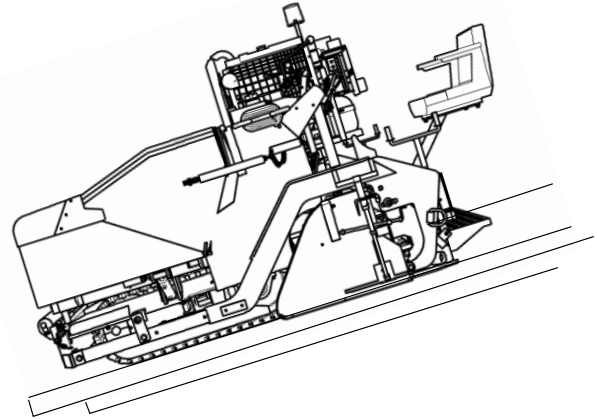

Figure 4-41. Correct Loading/Unloading Position
5. Move paver forward down the ramp as shown (Figure 4-41).
6. Move paver forward down the ramp as shown (Figure 4-41).